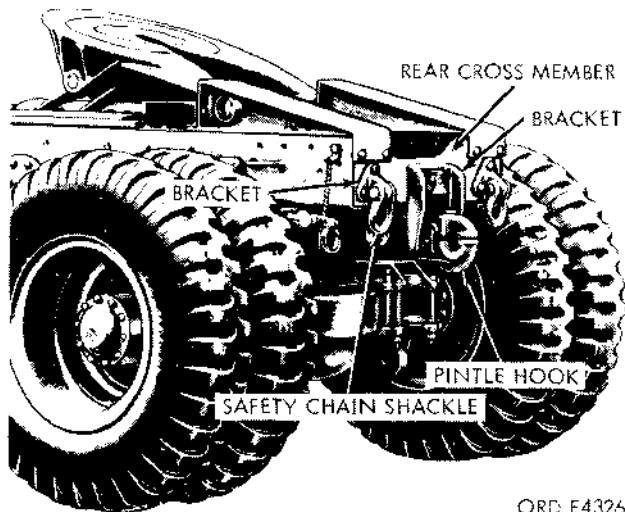

Figure 2-211. Pintle hook and safety chain shackle mounted to rear of vehicle.
(1) *Removal.* Remove the hook as described in a(2) above. Unscrew the eight nuts, and remove the eight screws securing the bracket to the rear crossmember. Remove the bracket (fig. 2-211).
(2) *Installation.* Secure the bracket to the rear crossmember with eight screws and nuts (fig. 2-211). Tighten the nuts. Install the hook as described in a(4) above. Lubricate the pintle assembly in accordance with LO 9-2320-211-12.